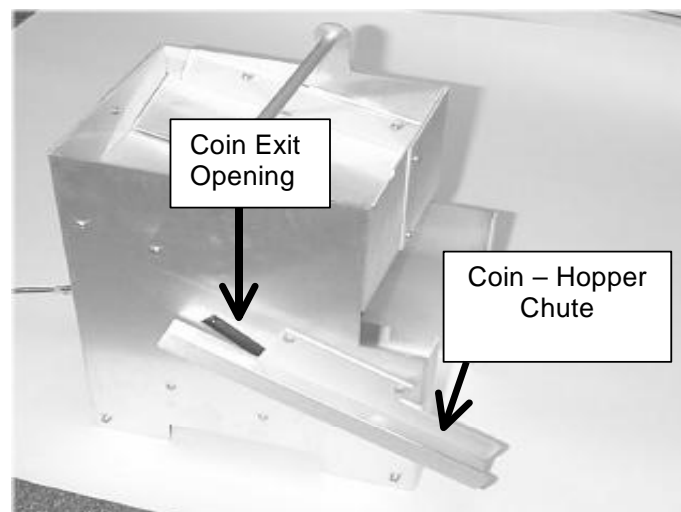

Figure 21. Hopper View - Coin Exit Opening and Chute
3. Place the hopper-cube back into the metal housing and replace the two screws you removed previously. Be sure that the coin exit opening of the hopper-cube is properly aligned with the exit chute of the metal housing. (See Figure 21.)